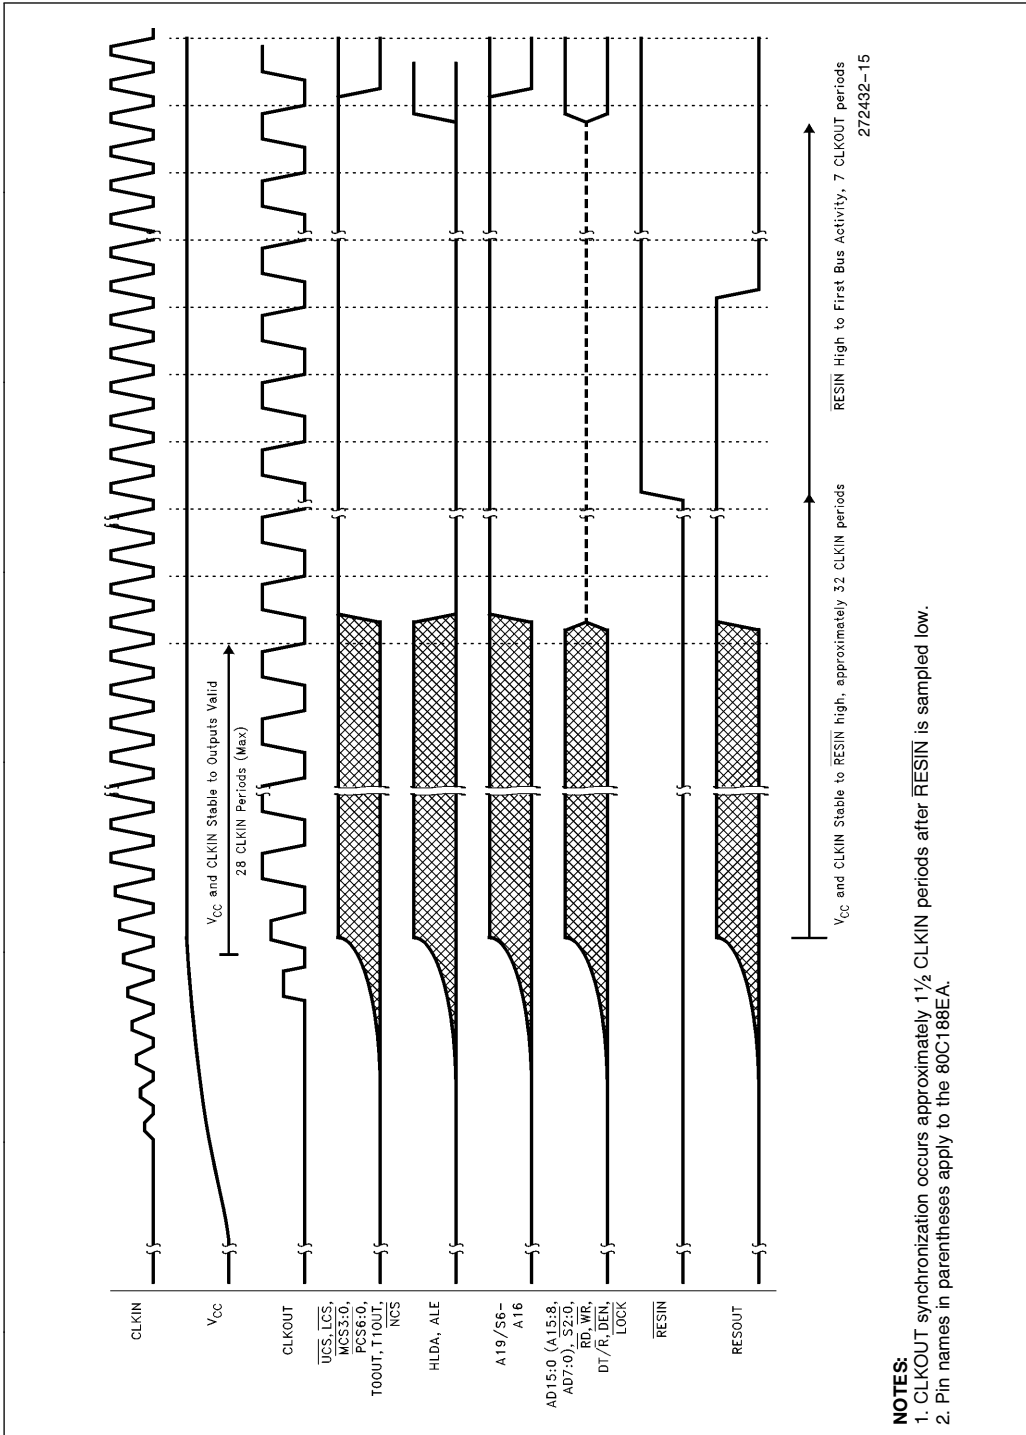

**Figure 14. Typical Rise and Fall Variations Versus Load Capacitance**
5. Specified for a 50 pF load, see Figure 14 for rise and fall times outside 50 pF.
6. See Figure 14 for rise and fall times.